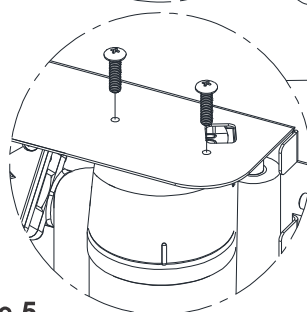
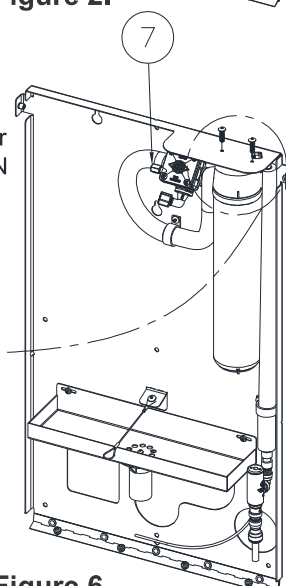

Figure 5.
Figure 6.
- 4. Mount Filter Assembly:** Route Supply Tubing [8] through center Fixing Loop [3]. Mount the Filter [9] to the upper back plate as shown. **Figure 5 & Figure 6.**